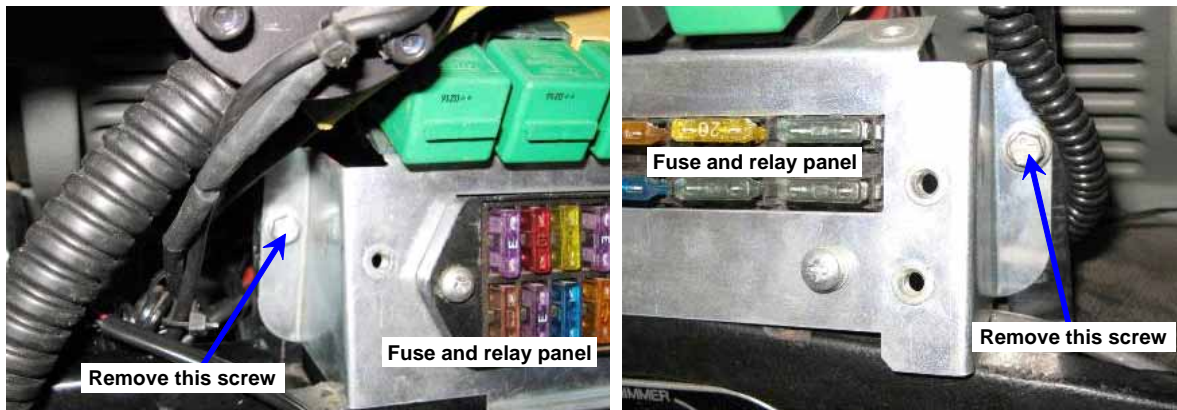

Figure 42 Fuse and Relay Panel Securing Points
- (7) Remove the cover from the central fuse and relay panel on the dash. Remove the two screws securing the panel (Figure 42) and ease the panel away from the dash.